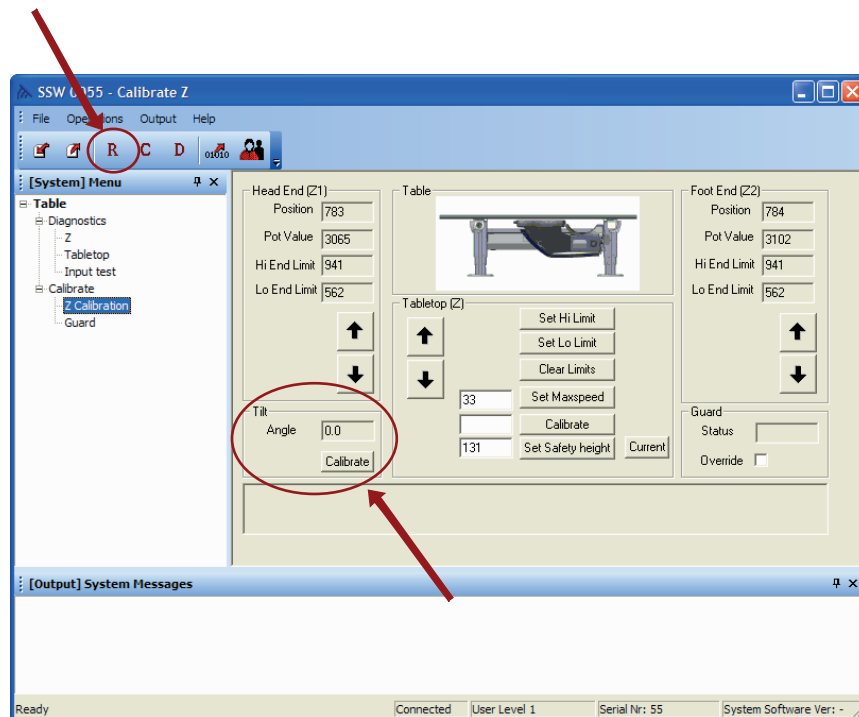

Fig. 4-152 *Reset button*
- 6. Press the *Tilt Calibrate* button (lower left corner of the view), see Fig. 4-152 *Reset button*. The displayed angle shall now be set to 0.0°.
- 7. Press the reset button (R), see Fig. 4-152 *Reset button*.